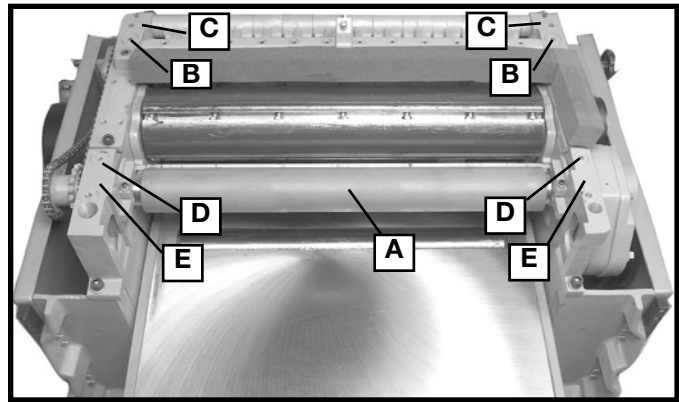

Fig. 33
The outfeed roll (A) Fig. 33, and infeed roll (not visible) are those parts of your planer that feed the stock while it is being planed. The feed rolls are under spring tension and this tension must be sufficient to feed the stock uniformly through the planer without slipping but should not be too tight that it causes damage to the board. The tension should be equal at both ends of each roll.
To adjust spring tension on the infeed roll, turn screws (B) Fig. 33, right or left until they are flush with top of casting (C). To adjust spring tension on the outfeed roll (A), turn screws (D) until they are 2 to 3 complete turns below surface of casting (E).